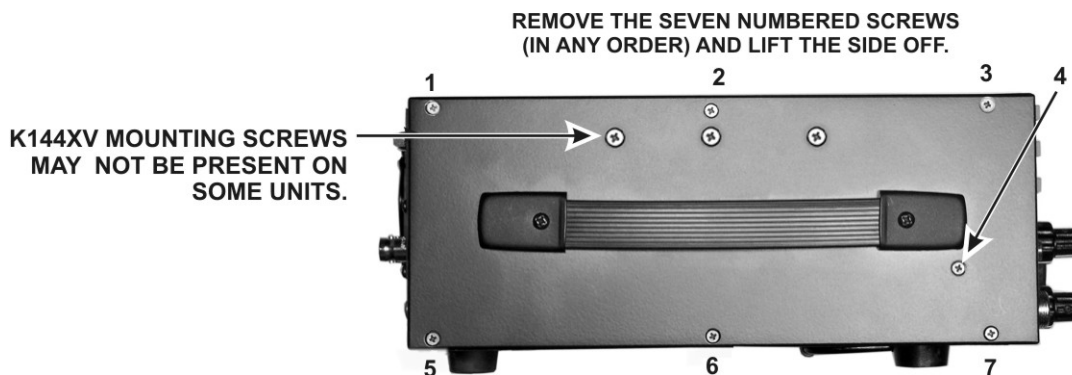

Figure 3. Removing the Left Side Panel.
- Stand the K3 on its side feet and remove the seven screws shown in Figure 3. Do not remove the three larger K144XV mounting screws. Lift the left side panel off (and attached K144XV module if installed) and set it aside in a safe place.